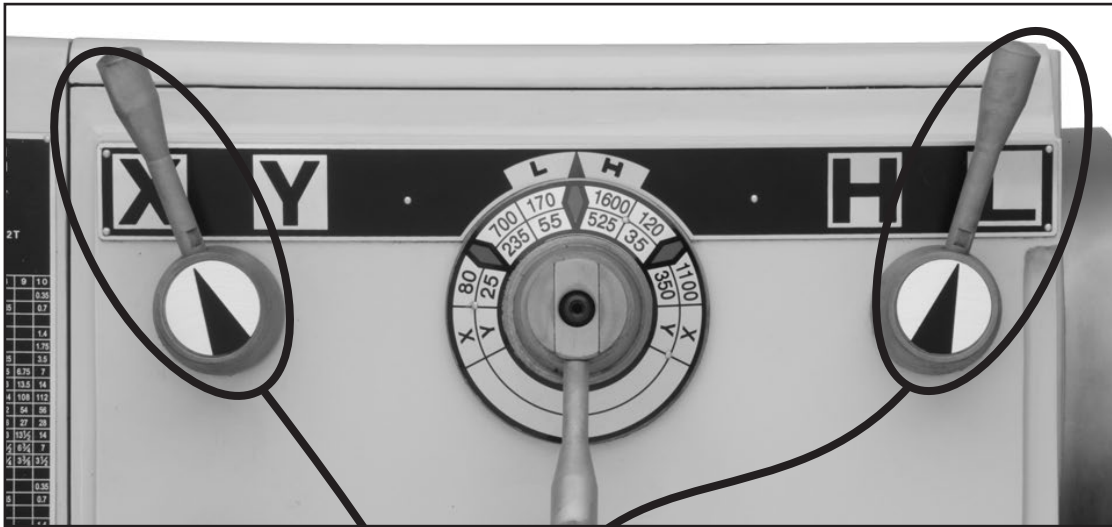

Figure 42. Range levers.
5. Move the spindle range lever to **L** (Low Range) as shown in **Figure 42**. The RPMs available now are low: 25, 80.
6. Move the range splitting lever to **X** as shown in **Figure 42**. The final spindle RPMs is 80.